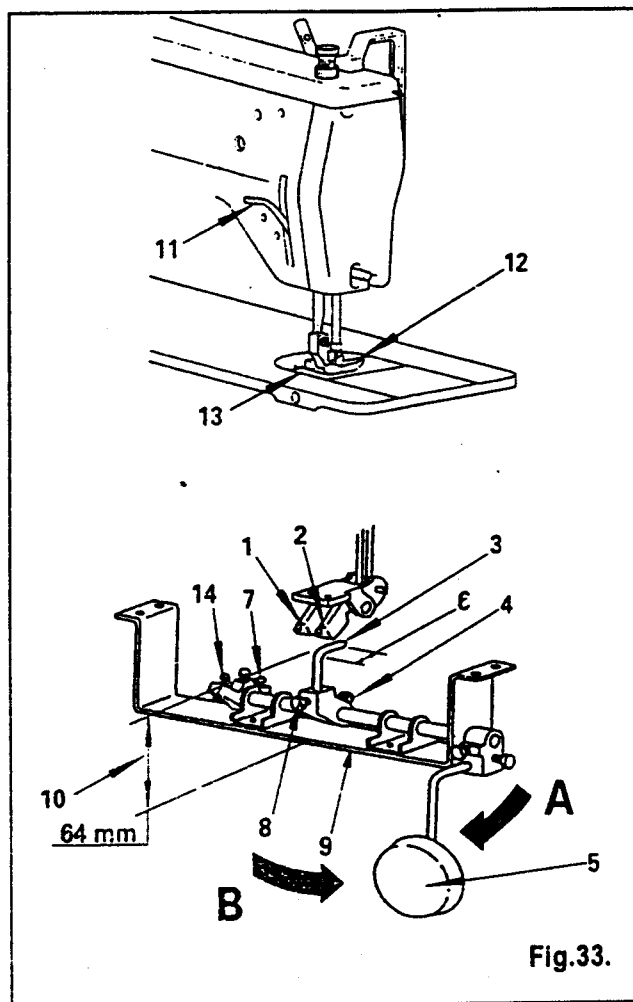

Fig.33.
Bell cranks (1) and (2) shown in Fig.33 are fastened to the underside of the bed. Bell crank (1) is used for lifting and lowering the presser foot with knee, and bell crank (2) is used for controlling the stitch width. (See Fig.33)
To raise or lower the presser foot with knee, loosen screw (4) holding the knee lifter shaft arm (3) and move knee lifter shaft arm (3) just under the bell crank (1), and firmly tighten screw (4), (See Fig.33)
Loosen the lock nut holding screw (7) and turn screw (7) as required, so that the bent end (6) of knee lifter shaft arm (3) will be almost horizontal when knee lifter knee plate (5) is pushed as far as it will go in the direction indicated with arrow (A), then firmly tighten the lock nut. (See Fig.33)
With knee lifter shaft arm (3) set in position as described above, loosen screw (8) and move knee lifter shaft arm (3) up or down as required, so that height (10) from its bent end (6) to bracket (9) is 64 mm. (See Fig.33)
Raise presser foot (12) with presser foot lifter (11). Then loosen the lock nut holding screw (14) and turn screw (14) as required, so that knee lifter knee plate (5) when pushed in the direction indicated with arrow (B), will stop at a point (presser foot (12) raised approx. 9 mm from throat plate (13) surface) where presser bar lifter (11) will drop down from its raised position when presser bar is lifted a little higher than its normal up position. Then firmly tighten the lock nut. (See Fig.33)
When knee lifter knee plate (5) is pushed in the direction indicated with arrow (B), the presser foot (12) will rise and when knee plate (5) is released, presser foot (12) will be lowered. (See Fig.33)